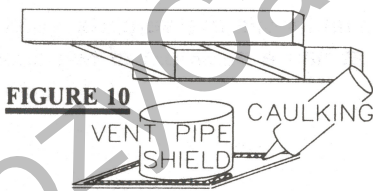
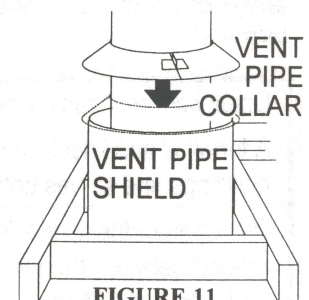

FIGURE 10
FIGURE 11
A vent pipe shield will prevent any materials such as insulation, from filling up the 1" air space around the pipe. **FIGURE 11.** Nail headers between the joist for extra support.
2. Apply a bead of caulking (not supplied) to the framework or to the Wolf Steel vent pipe shield plate or equivalent (in the case of a finished ceiling), and secure over the opening in the ceiling. **FIGURE 10.** A firestop must be placed on the bottom of each framed opening in a roof or ceiling that the venting system passes through. **FIGURE 11.** Apply a bead of caulking all around and place a firestop spacer over the vent shield to restrict cold air from being drawn into the room or around the fireplace. Ensure that both spacer and shield maintain the required clearance to combustibles. Once the vent pipe / liner
loosely onto the air terminal assembly as it is passed through the attic. FIGURE 11. The air terminal must be located vertically and plumb.